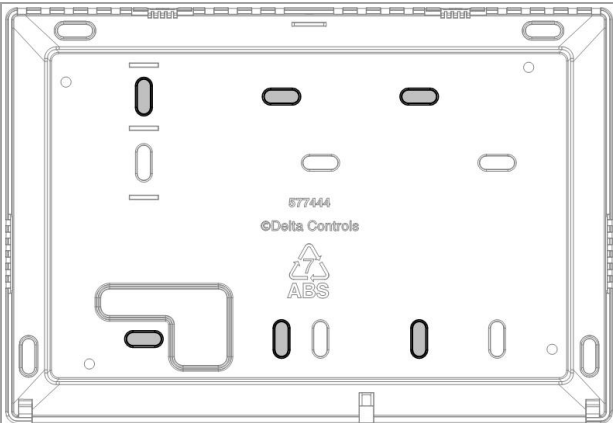
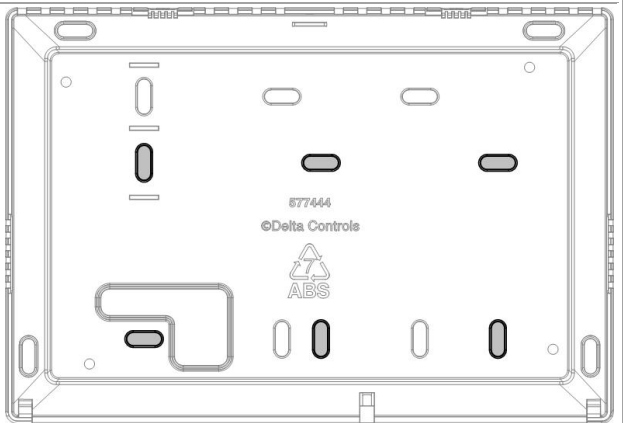
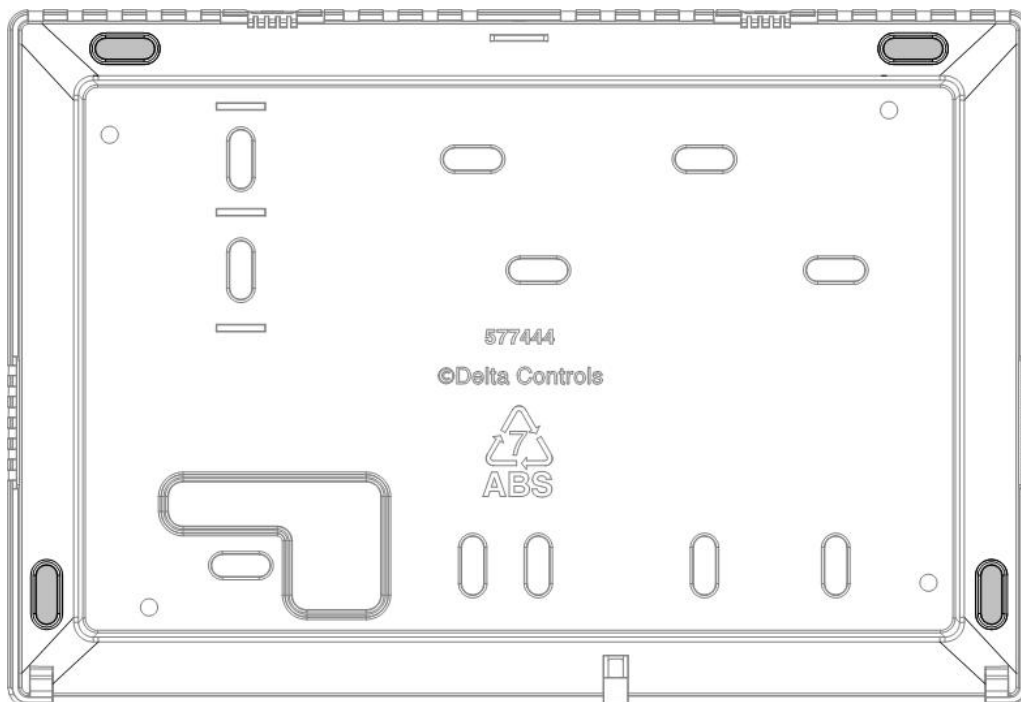

Figure 2: North American Standard Box Holes
Figure 3: European Standard Box Holes
Figure 4: Outside Mounting Holes
Note: Only use the holes show in Figures 2 and 3, not the holes shown in Figure 4
1. Use the holes on back plate to attach the HMI display to a single or multi-gang box. Use the appropriate holes for either North American or European standard electrical boxes (**Figure 2** and **Figure 3**)
2. Mount the HMI display by using the 4 outside slotted mounting holes (see **Figure 4**) on the back of the HMI display. Use screws appropriate for the mounting surface.